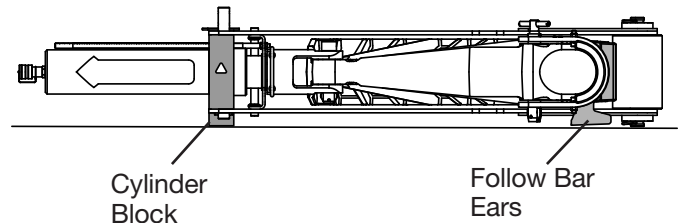

Figure 11
13. Once the "START" end is past the roller, turn the follow bar so that the conduit groove is toward the ram and the follow bar ears touch the ground. (Fig. 11)